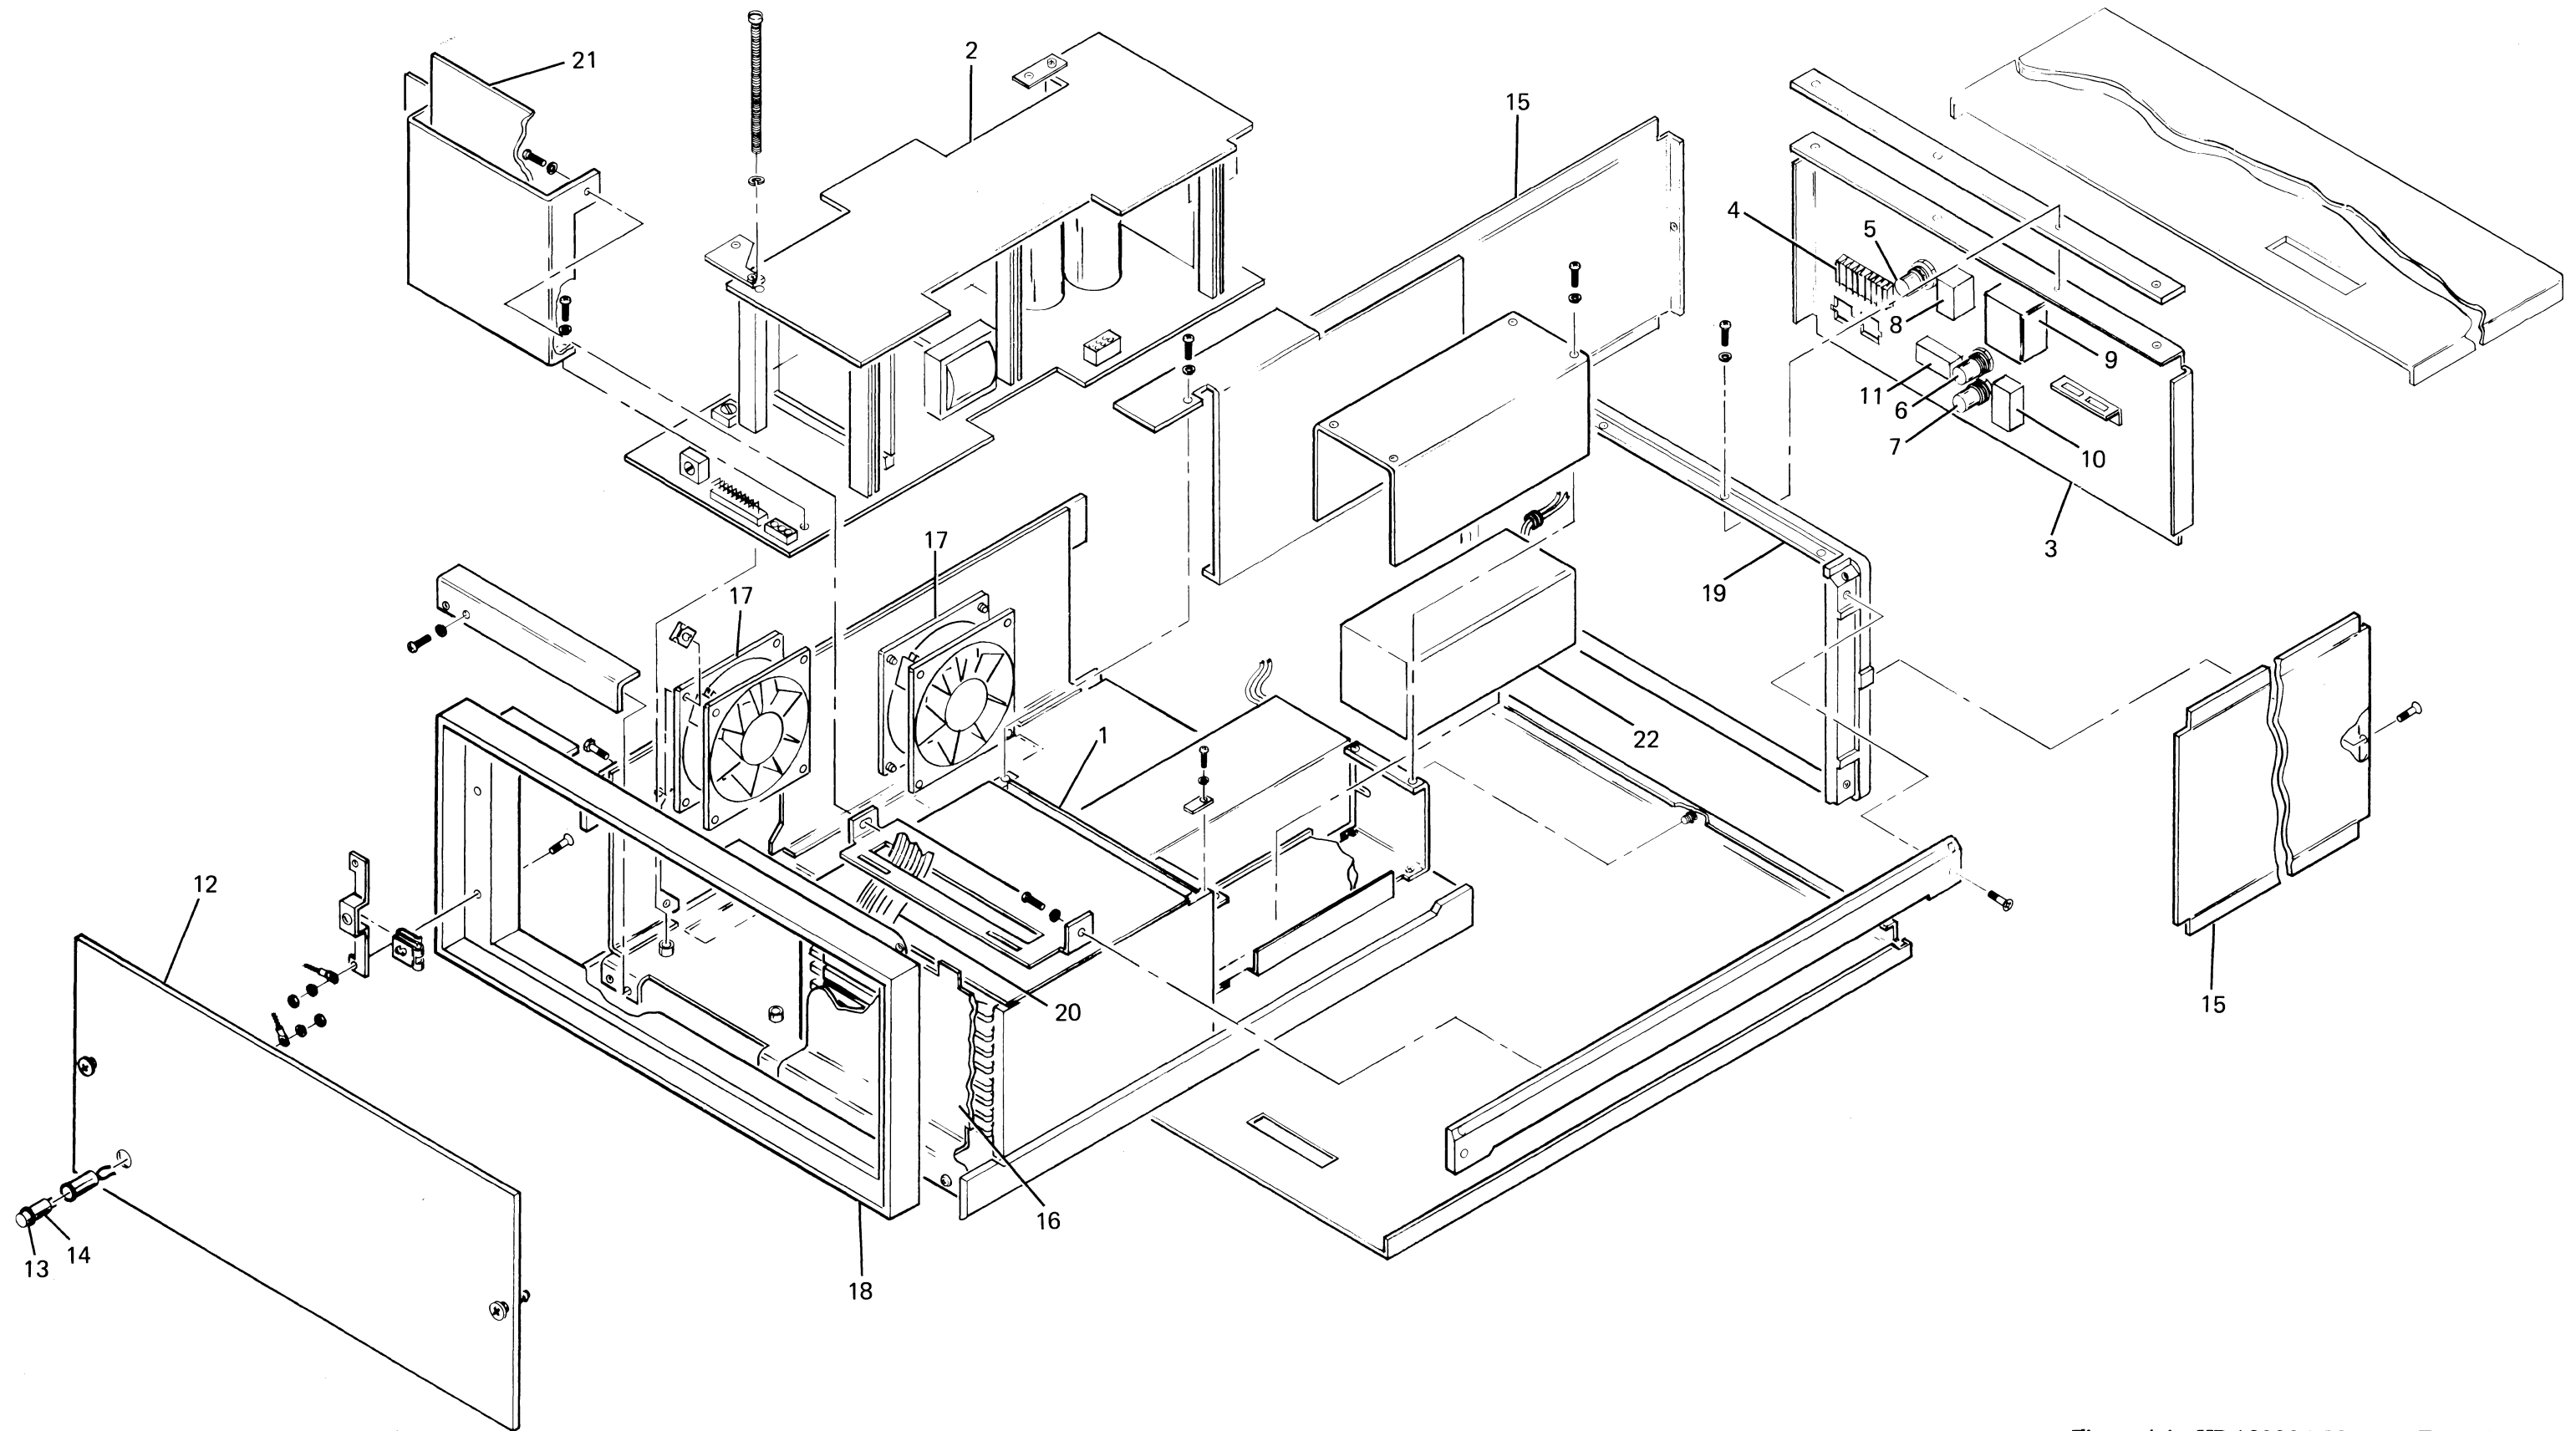

Figure 4-1. HP 12990A Memory Extender Exploded View
The following paragraphs, which describe procedures for removing and replacing various extender parts and subassemblies shown in figure 4-1, assume that the extender is installed as a freestanding device. If the extender is rack mounted, read the entire subassembly removal procedure and refer to figure 4-1. When it is obvious that the procedure cannot be performed with the extender in the rack, proceed as follows:
- c. Remove seven screws and lockwashers securing rear panel to mainframe. Four of these screws are inside mainframe (figure 4-1) and three are long bottom of rear panel.
The parts are listed in table 4-1 and illustrated in figure 4-1. The columns in table 4-1 provide the following information for each part: